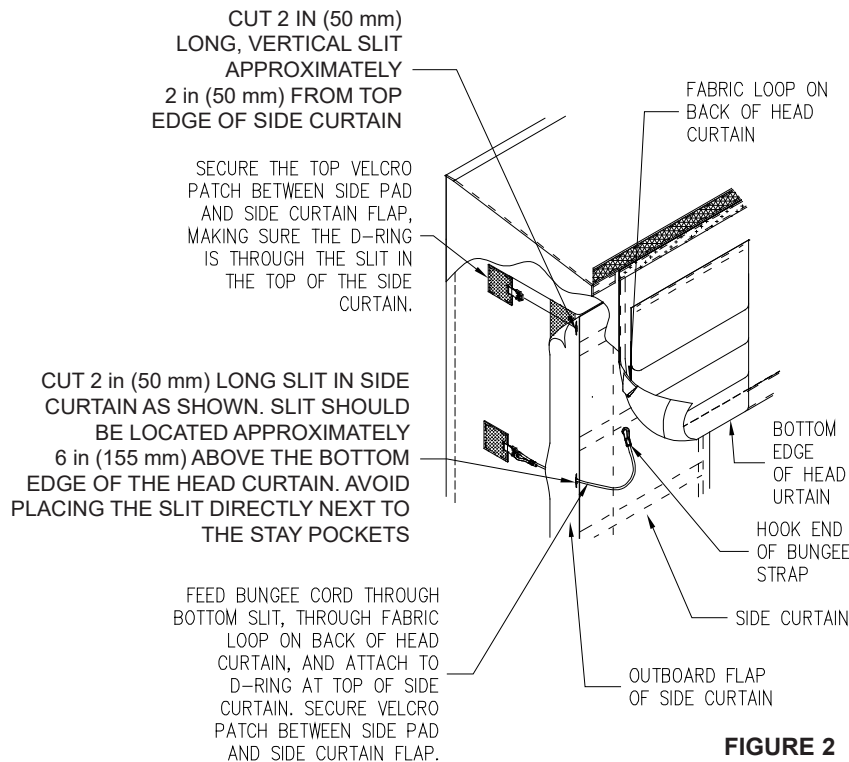

FIGURE 2
5. Install Windstraps - Reference Figure 2.
The first step requires cutting two vertical slits in the outside edge of the side curtain with a utility knife. If the slits are already present and at the correct location as described in Figure 2, this step can be skipped. Generally, the slits will only need to be cut during installation if you are installing a replacement head curtain.